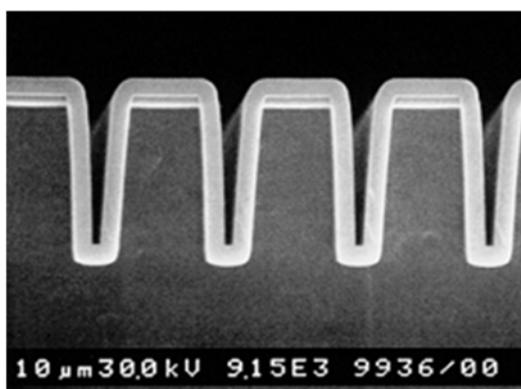

Figure Q5[b]
- [b] Figure Q5[b] shows an SEM image of silicon trenches coated with 300 nm of Alumina. Could you explain on how to obtain this type of coating?**